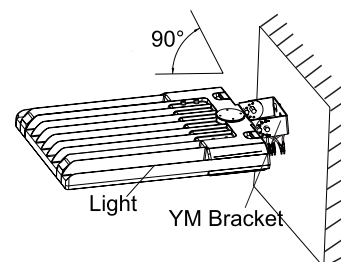

Figure 16
Step 3: Connect the fixture to the bracket and tighten the screws; connect the wires properly and put them into junction box. (Fig. 16)
Notice: Adjustable angle is 0-90° (Fig. 16)